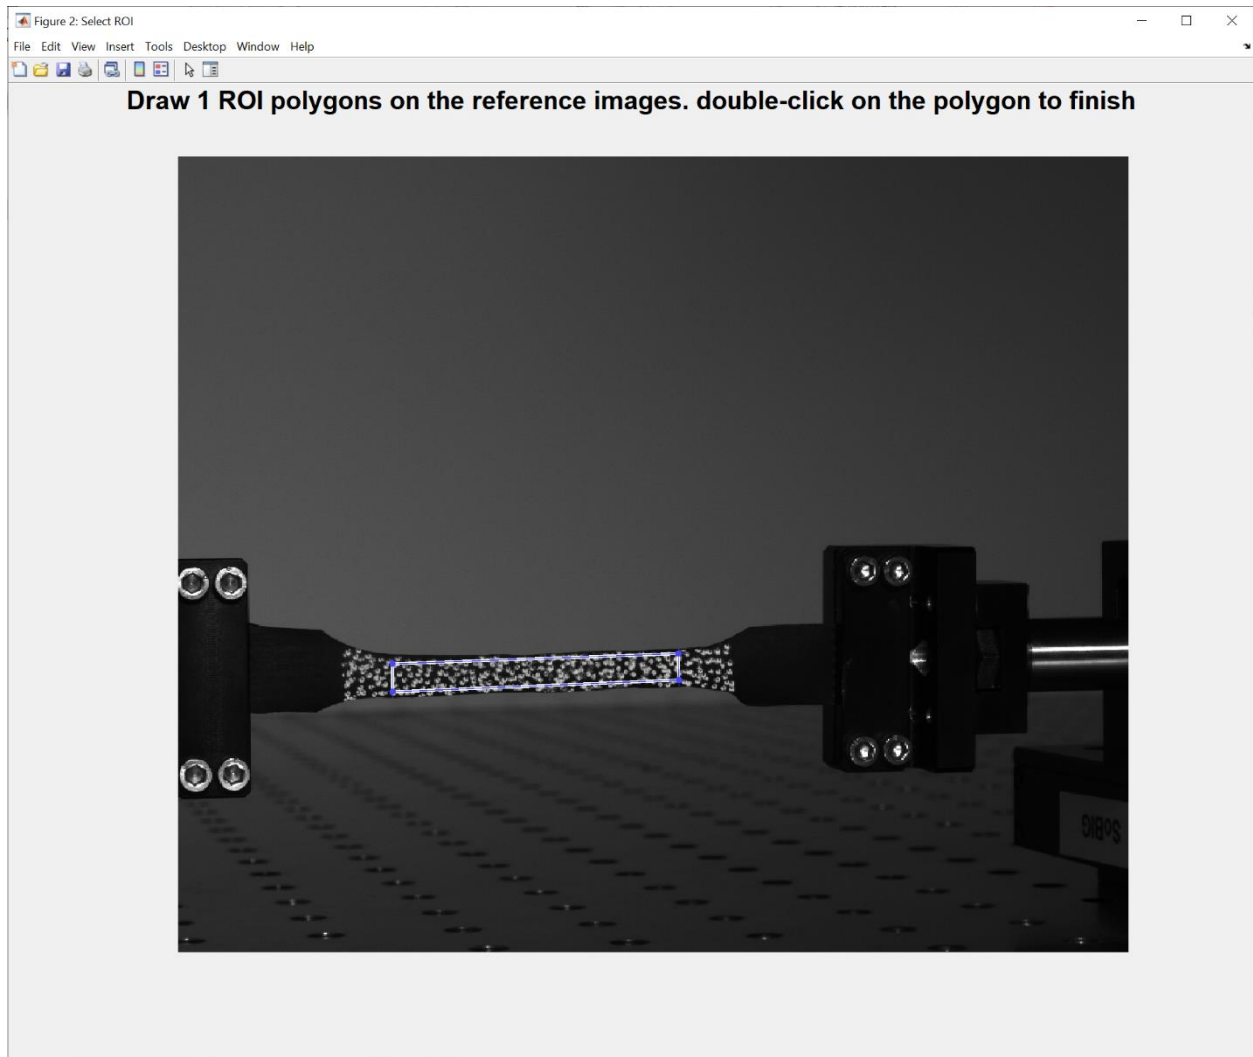

Figure 6. Select a ROI by drawing a polygon on the reference image.
- **New:** Drawing a new mask by drawing polygons around the ROIs. A window will appear asking for the number of ROIs (number of closed regions), give the amount and press 'OK'. An ROI is defined by drawing a polygon on the reference image (see Figure 6). Make sure that the entire ROI is visible on all the images (from both cameras). Click on the image to select the first vertex and continue placing new vertices by clicking on image points. To close the polygon, click on the first vertex or double-click. Once the polygon is closed, vertices can be moved by dragging them (the cursor will turn to a circle when you hover over a vertex). Also, the entire polygon can be translated by dragging. To finish, double-click on the polygon.